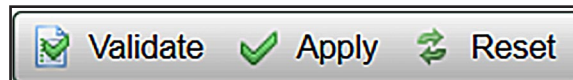

Figure 48. The Validate button.
- STEP 4.** When the password has been entered, click on the **Validate** button in the top right corner of the *IntelliLink* screen. See Figure 48.